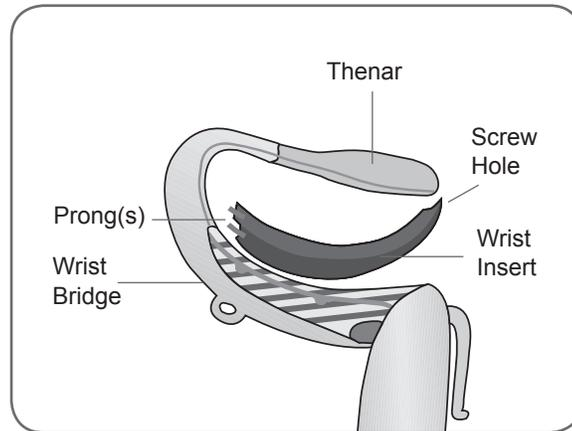

Figure 6-5: Aligning the wrist insert.
3. Align the wrist insert over the wrist bridge. The prong(s) on the wrist insert should be distal and the screw hole proximal. See Figure 6-5.